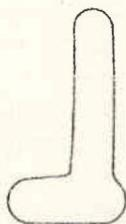

Figure 9
14. Using 3- or 4-ounce elk leather, cut a cover for the above-knee part of the upright, with a flap to cover the joint, as shown in the sketch. Allow enough extra width to sew a double row of stitching around the upright (see pattern shown in Fig. 9).